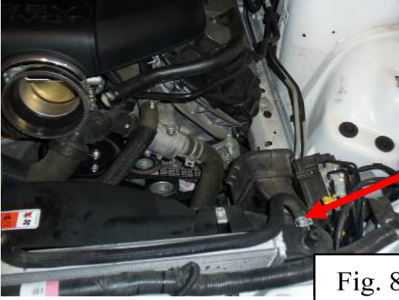

Fig. 8
8. Remove the hose from the rear of the surge tank (Fig. 7). Remove the hose from the driver side of the radiator that comes from the surge tank (Fig. 8).